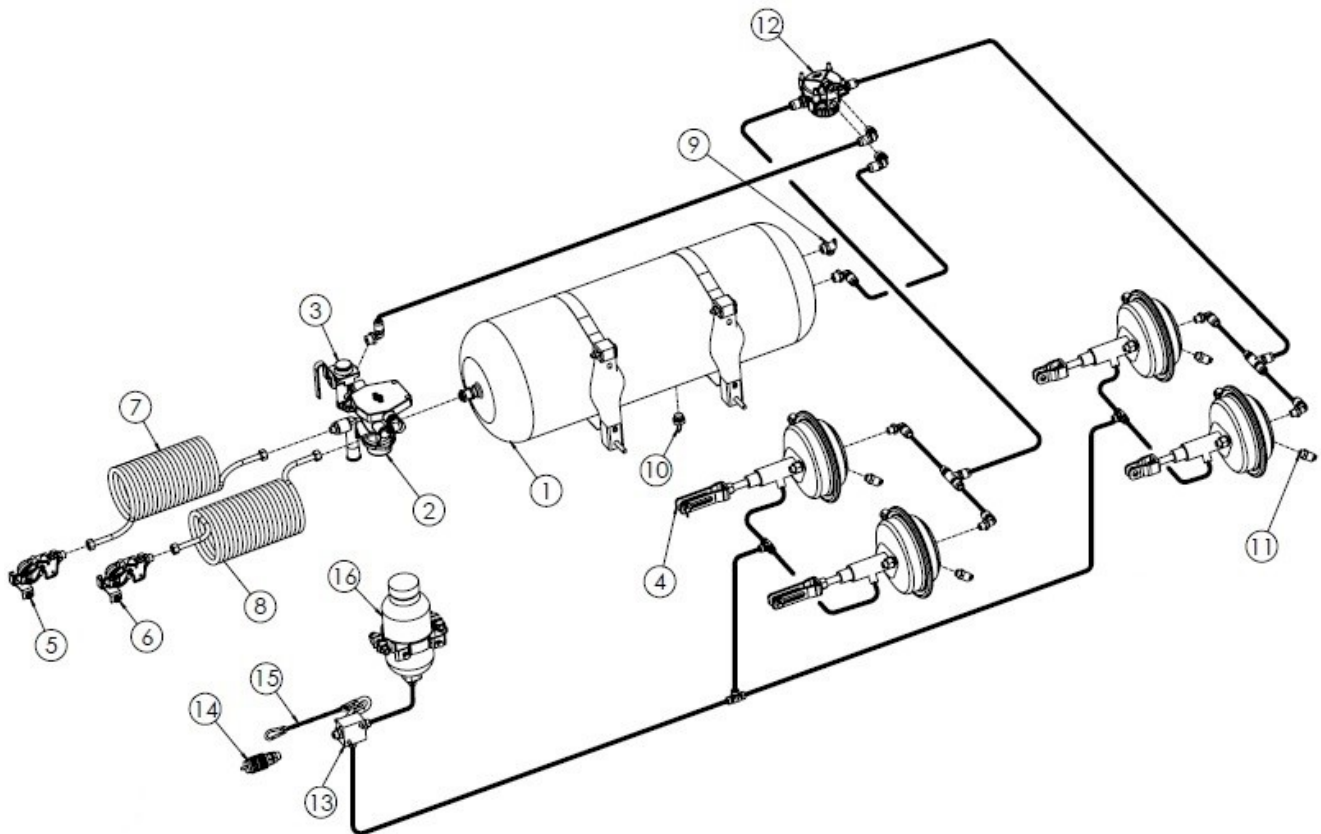

Figure 13 The hydraulic pneumatic braking system
- pneumatic hydraulic braking system (Figure 13)
Another option for the braking system is the hydraulic pneumatic braking system - Figure 13.